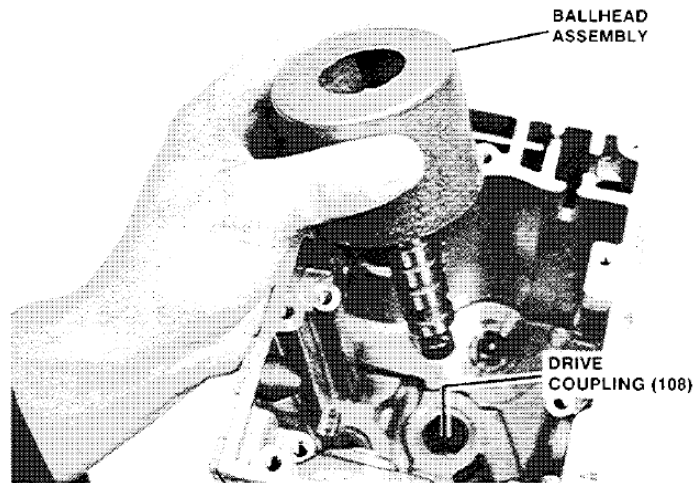

Figure 5-5. Ballhead
7. Remove the ballhead assembly from the governor. Drive coupling (108) may come out with the ballhead assembly. If not, it will drop out when the governor is turned over (Figure 5-5).